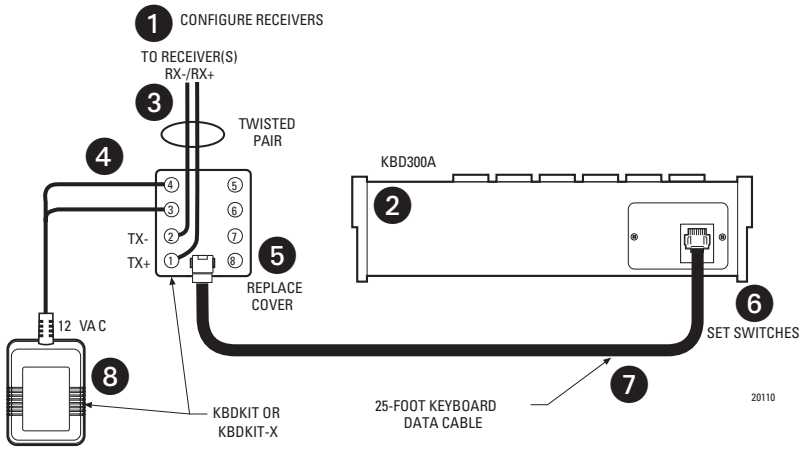

Figure 10. Direct Keyboard and Receiver Wiring
Refer to Figure 10.
- ❶ Make sure all receivers are configured to communicate using either Pelco P or Pelco D protocol and that each receiver has a unique address. Refer to your receiver manual for switch settings.
- ❷ Decide on a suitable location for the keyboard and wall block. The keyboard must be within 25 feet (7.6 meters) of the wall block. The wall block must be within 6 feet (1.8 m) of the nearest suitable electrical outlet. Do not mount the wall block at this time.
- ❸ Remove the cover from the KBDKIT or KBDKIT-X wall block. Connect the transmission wires from the receiver (Spectra/Esprit system) to the wall block. Refer to Figure 10 and do the following: